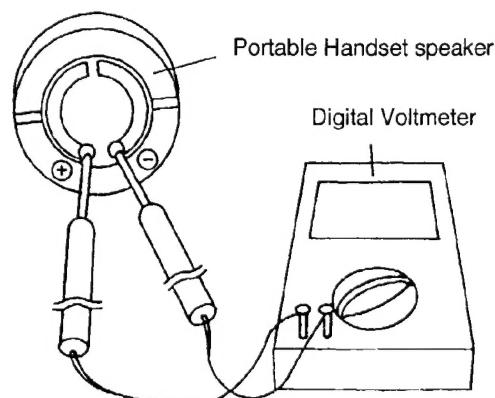

Fig. 13
2. Put the probes at the speaker terminals as shown in Fig.13